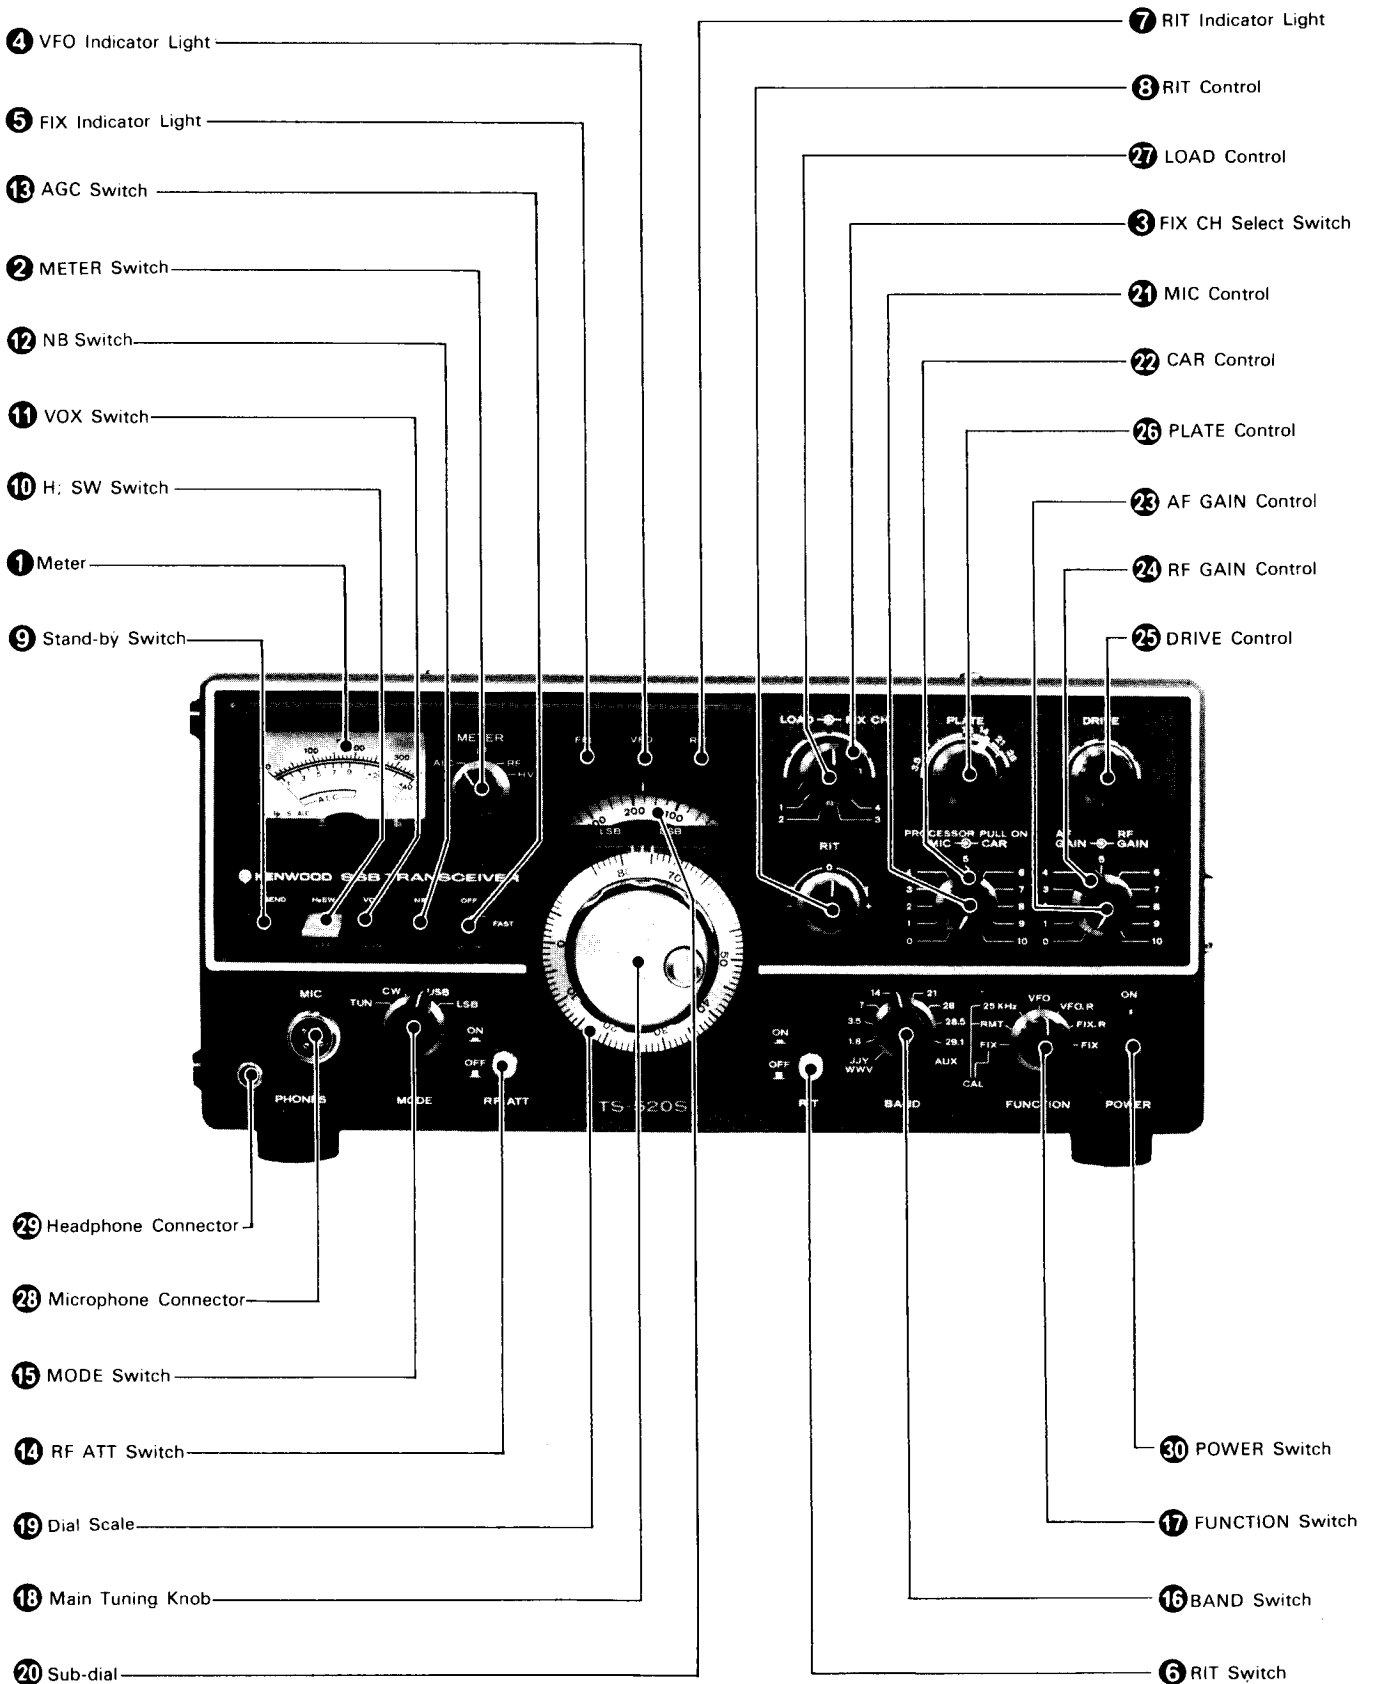

Fig. 5 Front Panel Controls
3.1 FRONT PANEL CONTROLS (See Figure 5)
■ METER (1 on Figure 5)
■ METER SWITCH (2 on Figure 5)
(3 on Figure 5)
■ VFO INDICATOR LIGHT (4 on Figure 5)
■ FIX (FIXED CHANNEL OPERATION) INDICATOR LIGHT (6 on Figure 5)
■ RIT SWITCH (6 on Figure 5)
■ RIT INDICATOR (7 on Figure 5)
■ RIT CONTROL (8 on Figure 5)
■ STAND-BY SWITCH (9 on Figure 5)
■ H. SW (Heater) SWITCH (10 on Figure 5)
■ VOX SWITCH (11 on Figure 5)
■ **NB SWITCH** (12 on Figure 5)
■ **AGC SWITCH** (13 on Figure 5)
■ **RF ATT SWITCH** (14 on Figure 5)
■ **MODE SWITCH** (15 on Figure 5)
■ **BAND SWITCH** (16 on Figure 5)
■ **FUNCTION SWITCH** (17 on Figure 5)
■ **MAIN TUNING KNOB** (13 on Figure 5)
■ **DIAL SCALE** (14 on Figure 5)
■ **SUB-DIAL** (15 on Figure 5)
(16 on Figure 5)
■ **CAR CONTROL** (17 on Figure 5)
■ **AF GAIN CONTROL** (18 on Figure 5)
■ **RF GAIN CONTROL** (24 on Figure 5)
■ **DRIVE CONTROL** (25 on Figure 5)
■ **PLATE CONTROL** (26 on Figure 5)
■ **LOAD CONTROL** (27 on Figure 5)
■ **MIC CONNECTOR** (28 on Figure 5)
■ **PHONES JACK** (29 on Figure 5)